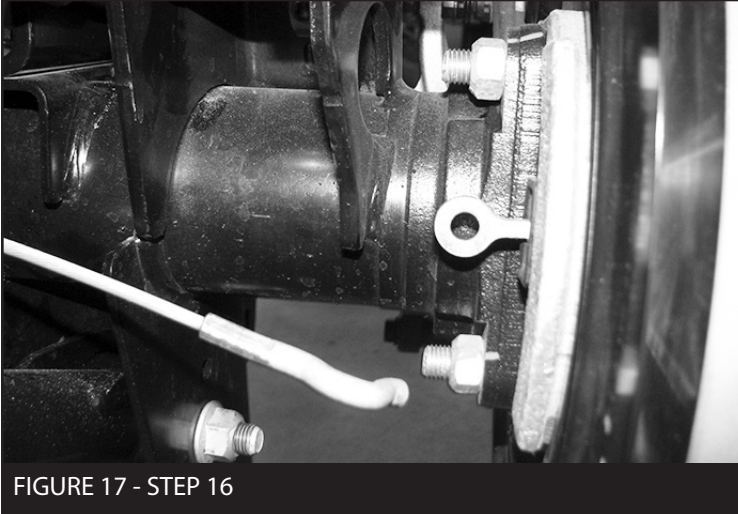
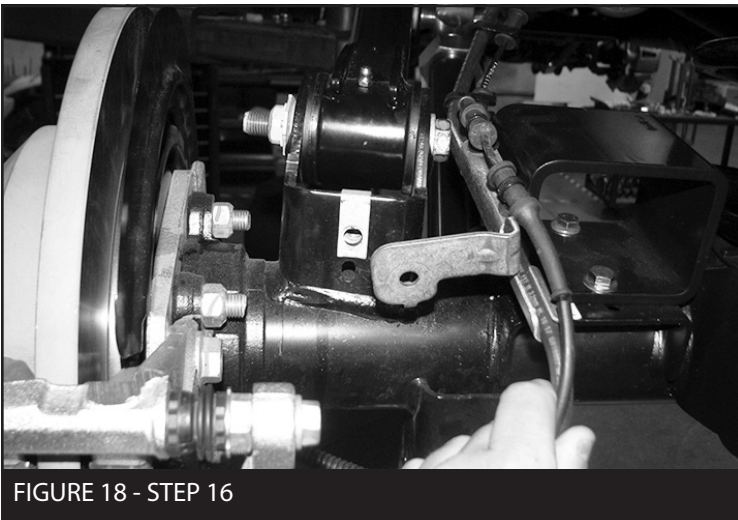

FIGURE 17 - STEP 16
FIGURE 18 - STEP 16
16. Disconnect the e-brake cables behind the rotor. SEE FIGURE 17. Next, Disconnect the brake line from the axle link pocket. SEE FIGURE 18.